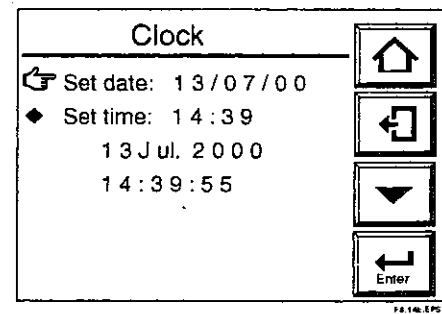

Figure 8.14 Clock Display
- (1) Press the Setup key in the Basic panel display to display the Execution/Setup display.
- (2) Select Setup in the Execution/Setup display to display the "Commissioning" (Setup) display.
- (3) Select Others in the "Commissioning" (Setup) display. The Others display then appears, as shown in Figure 8.14.
- (4) Select Clock. The Clock display then appears, as shown in Figure 8.14.
- (5) Select Set date to display the numeric-data entry display. To set the date June 21, 2000, enter 2106000 and press the [Enter] key. The display then returns to the one shown in Figure 8.14.